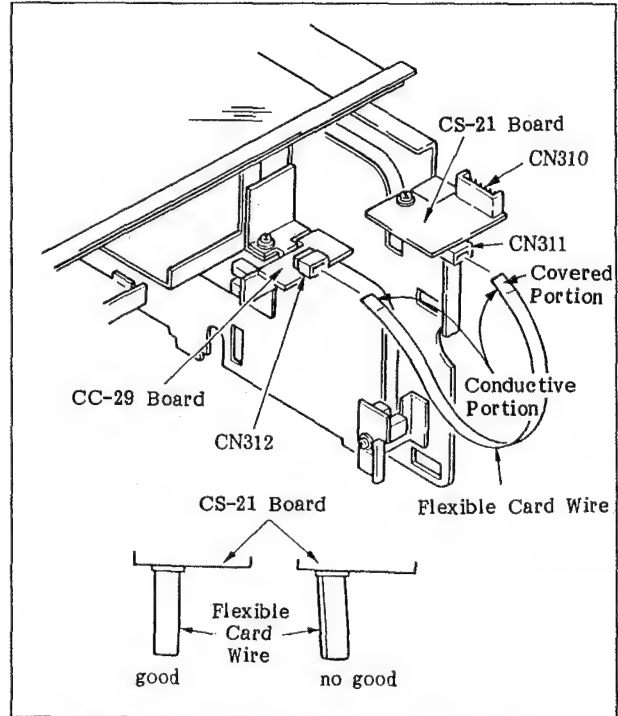

Fig. 6-12 Connecting the Flexible Card Wire
1. Pull the connectors CN311 and CN312 that are connected with the CS-21 and CC-29 boards respectively toward you. Then push the flexible card wire straight into the connectors. After that, insert the connectors into the prescribed position. (Fig. 6-12)
Note 2: There are the covered portion and the conductive portion. Properly connect the flexible card wire (4P), as shown in Fig. 6-12.